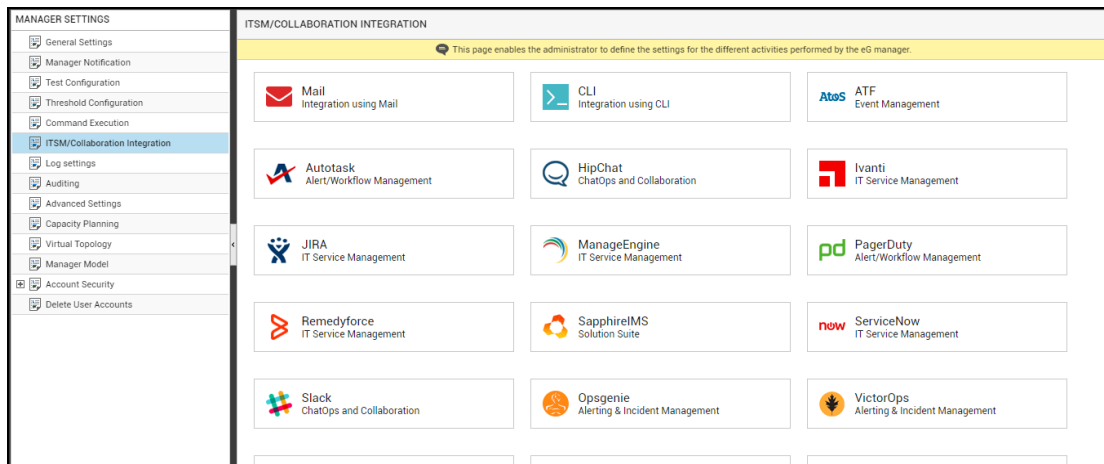

Figure 5.23: Viewing the ITSM/Collaboration tool options
3. Figure 5.23 will then appear. From the **MANAGER SETTINGS** tree in the left panel of Figure 5.23, select the **ITSM/Collaboration Integration** node. The third-party ITSM/Collaboration tools that eG Enterprise can integrate with will be listed in the right panel.
4. Now, click on the **ConnectWise** option in the right panel (see Figure 5.23). A **ConnectWise** section will now appear in the right panel (see Figure 5.24).